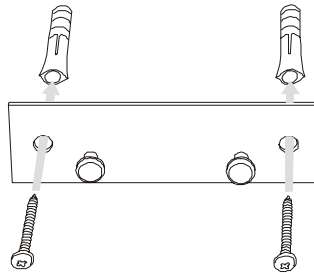
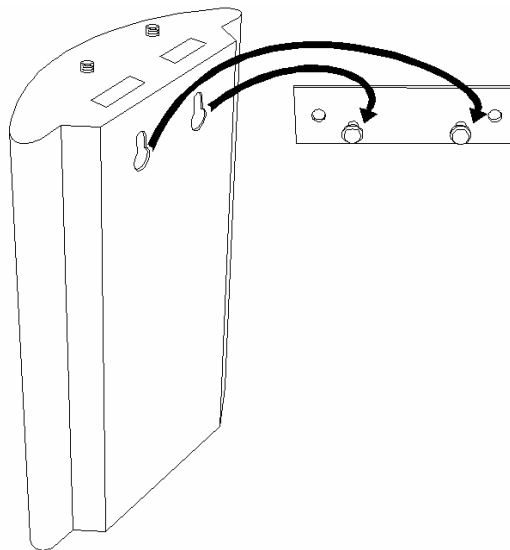

Fig. 3 – Gateway Holder Wall-Mounting
Fig. 4 – Gateway Hanging
- The 2N - ISDN BRI GSM Enterprise gateway is designed for mounting on a vertical surface. For this purpose a wall- mounting holder is available. Just fit the holder with dowels and screws (Fig. 3) to the wall and hang the gateway as shown in Fig. 4.